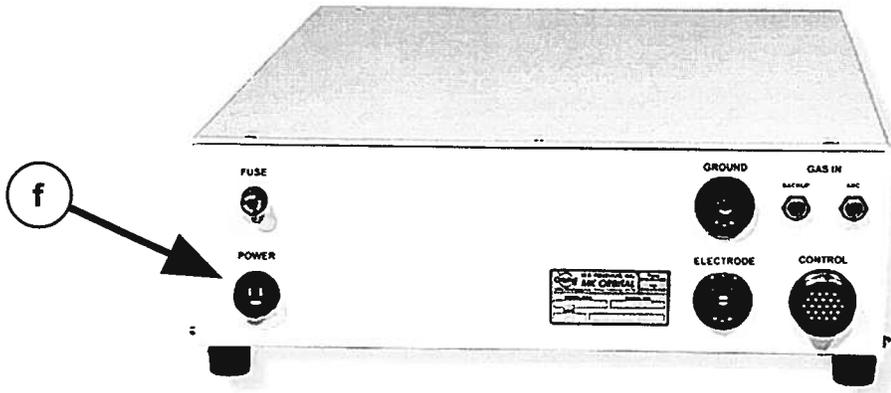

FIGURE 1
1. From the Auxiliary Power connection on the rear panel of the ACL, attach the 120VAC power cable (P/N 843-0464) to the rear panel connector of the DWA (Figure 1).